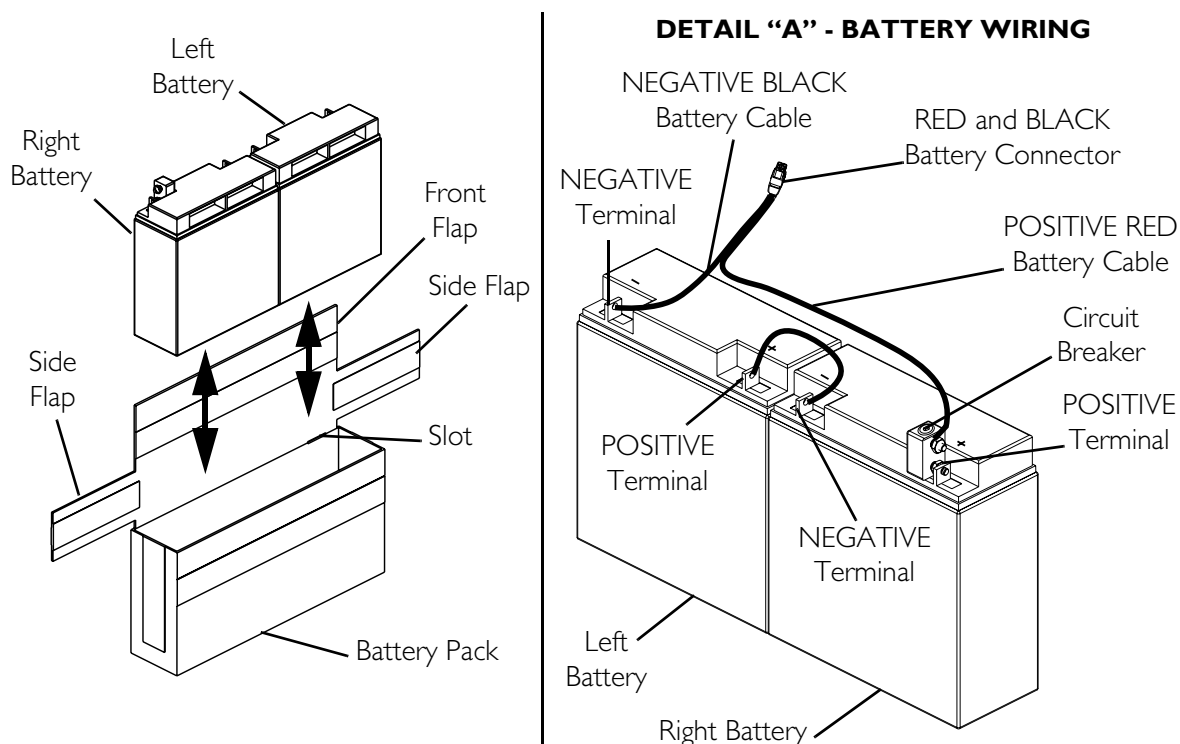

FIGURE 8.3 Removing/Installing the Batteries From/Into the Battery Pack
NOTE: For this procedure, refer to FIGURE 8.3.
1. Install the batteries into the battery pack in the orientation shown in FIGURE 8.3.